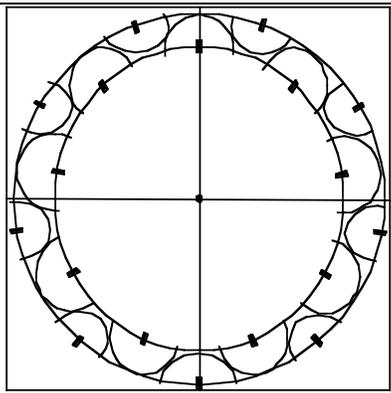

Fig. 5 – Draw circles centered at each outer circle mark that just touch circles on inner circle
11. Using a compass, at each of the marks on the outer circle, draw a circular arc that just touches the circles made in step 10. (Fig. 5) This defines the inner edges of the scallops.